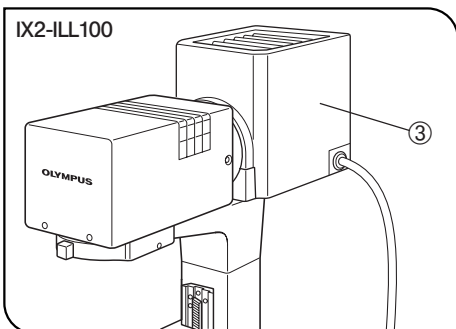

Fig. 3
7. To avoid potential shock hazards and burns when replacing the light bulb, set the main switch to "O" (OFF) then disconnect the power cord from the wall outlet in advance. Whenever you replace the bulb during use or right after use, allow the lamp housing ③ and bulb to cool before touching. (Fig. 3)